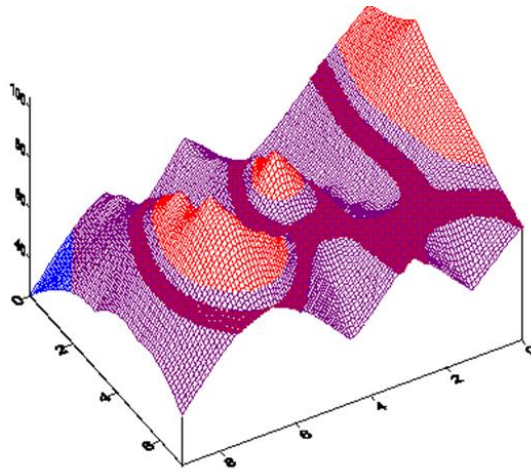

Figure 1.142 – The wireframe map is redrawn with $Z=70$ emphasized
4. Click OK in the wireframe properties dialog and the map is redrawn. The color zone at $Z = 70$ is drawn with a thicker line, and is emphasized on the map. (If you need to zoom in on the map, click the  button and then click on the map. Click the ESC key on your keyboard after you are finished zooming in), fig.1.142.